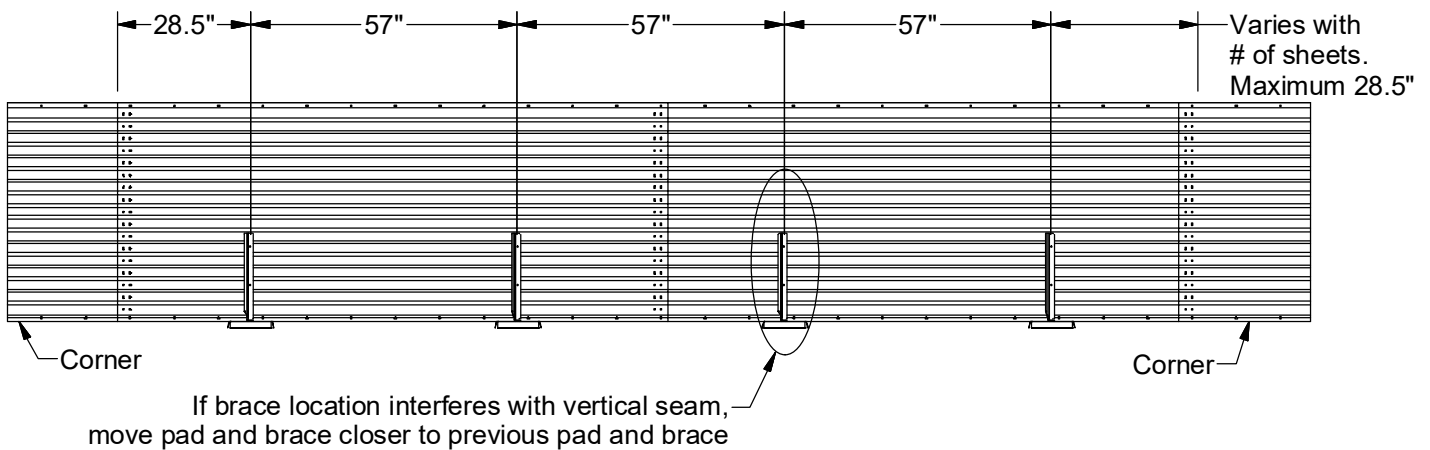

Fig 11 - ZGD Support Post Spacing for 34" (optional upgraded systems), 47" (SG < 1.0 optional upgrade systems and SG < 1.4 standard systems)
2. The distance between the last support and the second corner will vary but should be less than 28.5". If it is more than that, add another support post near the corner. See Figure 11 for more details.
4. Repeat steps 1-3 with the other sides. See Figure 11 for more details.